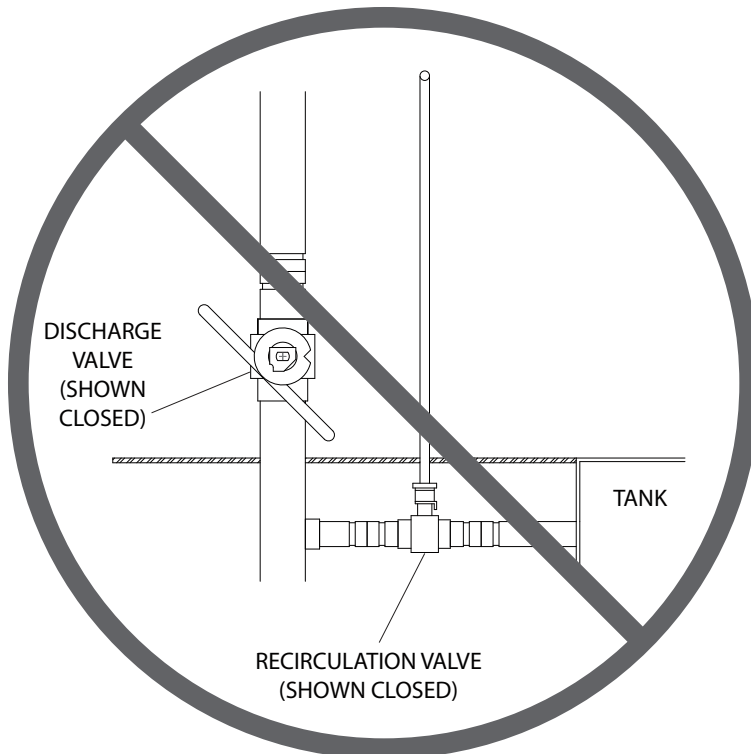

**Figure 1 – Automatic Pressure Lubricator Components**
B. Check automatic pressure lubricator at pump. If the red indicator is fully raised, the automatic pressure lubricator contains lubricant. If not, lubricant must be replaced by the following procedure (See Figure 1):